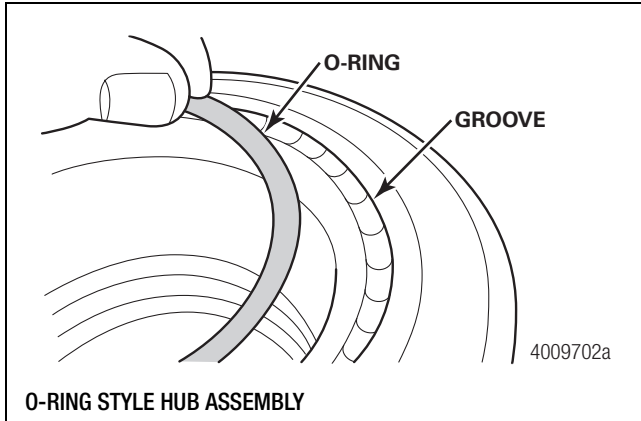

Figure 12
- If the bearing has a machined groove on the inside corner as shown in Figure 12: It is an O-ring style hub. An O-ring, part number 1205Q2747, is required.